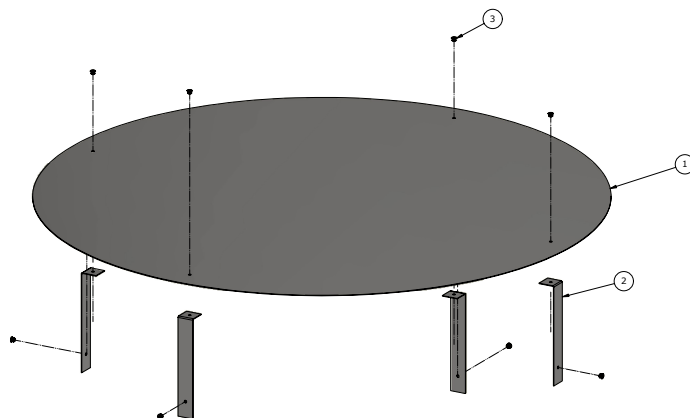

Figure 11: SD5/C Light Baffle Installation to SD5/C
- Rivet Item (2) to Item (1) using provided rivets (3) as figure 11